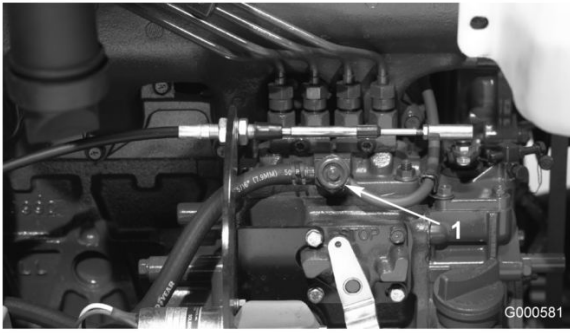

Figure 39
3. Open the air bleed screw on the fuel injection pump (Figure 39).